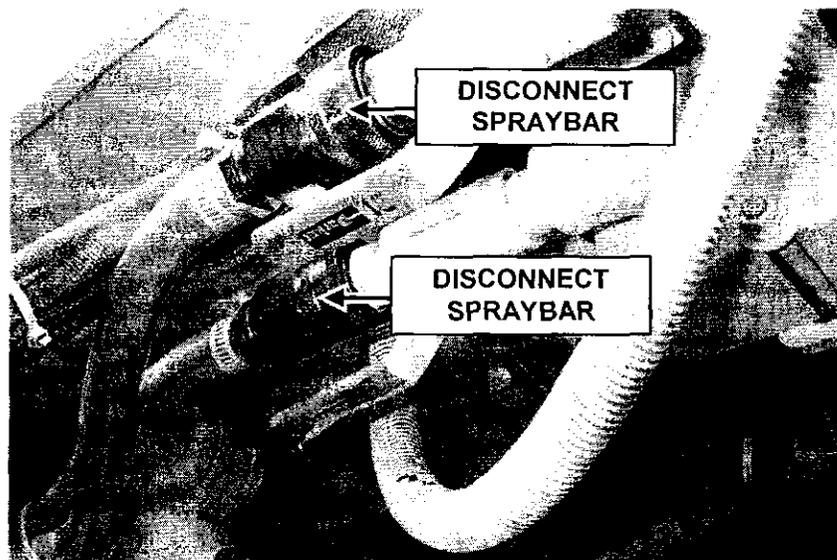

FIGURE 57
1. Disconnect the front and rear spray bars using the quick disconnects (figure 57).